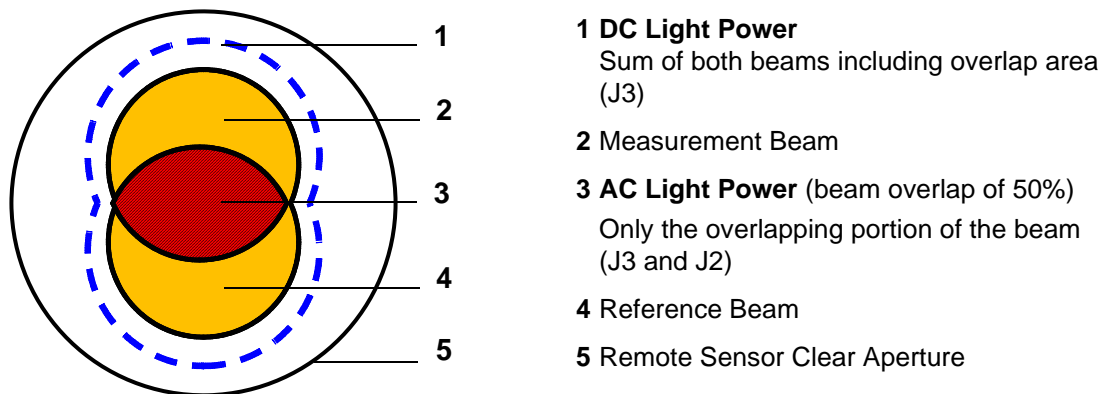

Figure 273 AC/DC light power relationship
Sensitivity dependencies are explained in terms of AC/DC ratio. It is important to understand this concept and how its measurement relates to the resultant electrical output of the Agilent E1709A receiver. Understanding the following terms will also clarify the differences between the Agilent E1708A and the Agilent E1709A, which are discussed and listed later in “Agilent E1709A relationship to Agilent E1708A” subsection in this chapter. The definitions include references to connectors (J2 and J3), shown in Figure 273. Detailed descriptions of the Agilent E1709A connectors and signal outputs are covered in *Agilent E1709A Remote High-Performance Receiver Operating Manual*.
Figure 273 illustrates the ac and dc light power relationship.
**AC/DC Ratio** This is the proportion of ac light power to the total dc light power. For example, Figure 273 shows the AC/DC ratio as approximately 50%. The importance of the AC/DC ratio is discussed in detail in Chapter 3 of the *Agilent E1709A Remote High-Performance Receiver Operating Manual*. The alignment procedure described in Chapter 4 of the Operating Manual involves calculating the AC/DC ratio and comparing the values to the Agilent E1709A specifications.
The Agilent E1709A has much greater sensitivity specifications than the Agilent E1708A. In order to obtain the optimum sensitivity performance for the Agilent E1709A, additional measurements and alignment procedures are required to maximize the ratio of ac light signal to dc light signal at the receiver input. Figure 273, illustrates ac light and dc light at the receiver input.